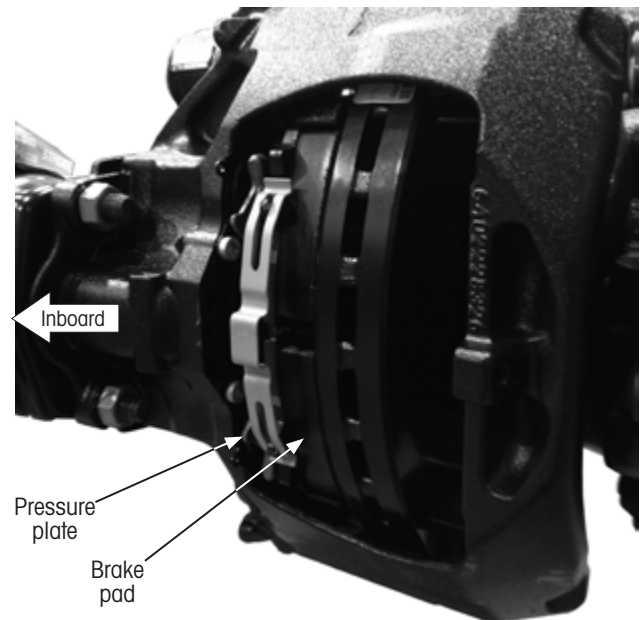

Figure 21: Removing inboard brake pad and pressure plate
11. **Manually push** the brake caliper inboard (Figure 21, arrow).